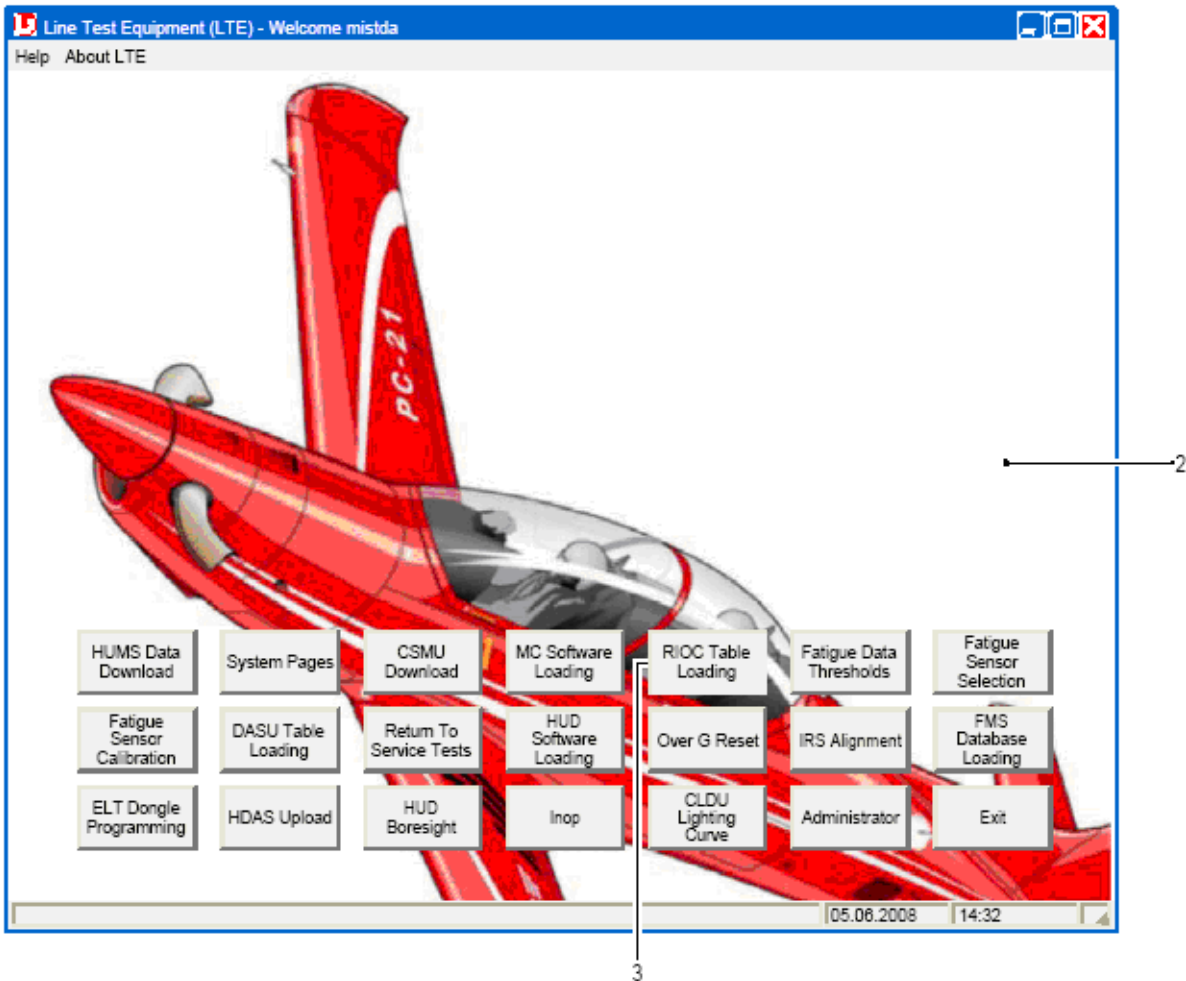

Figure 1
- (1) Power up the notebook.
- (2) Put the LTE Configuration Files CD in the CD drive of the notebook.
- (3) Double click the LTE icon (Ref. Fig 1, Item 1) to start the LTE software.
- (4) Select the RIOC Table Loading button (Ref. Fig 1, Item 3).
- (5) Click on the Yes button on the Utility Launch pop up box.
- (6) When prompted, select the aircraft tail number from the drop down menu, then click OK.